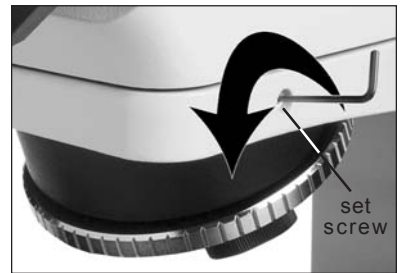

Figure 2
3. Remove the head from the stand by loosening the reflected illuminator set screw (figure 2) using the included 2mm hex wrench. **Grasp the head firmly before loosening the set screw to prevent it from falling.** Set the head aside.